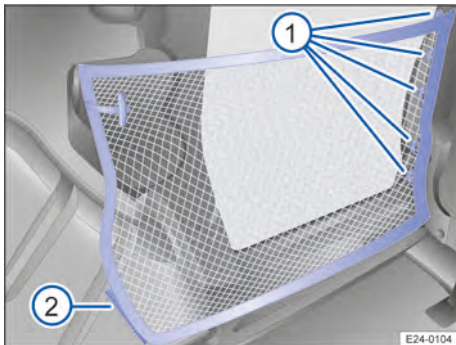

Fig. 138 Load restraint net attached.
3. Hook the five fastening rings into the holders on the seat frame → Fig. 138 ① on the flexible partition.
4. Secure the rear lower part of the load restraint net at the hook-and-loop fastener → Fig. 138 ②.